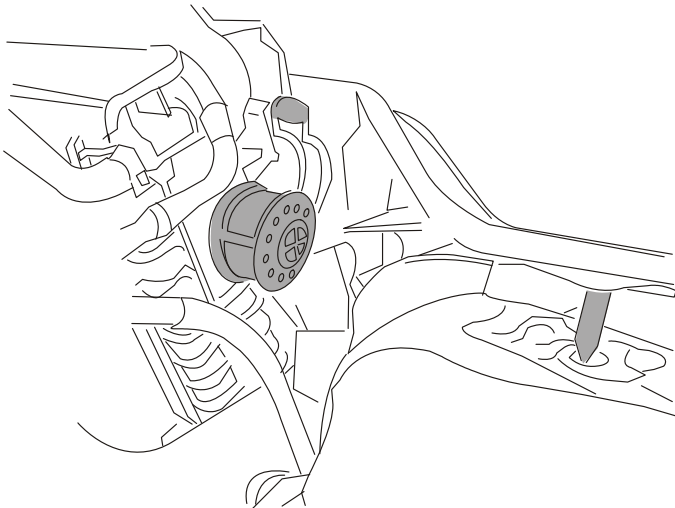

Figure 2.2
- Remove the two bolts securing the power steering reservoir to the fan shroud. Remove the fuel cooler line from the clip on the power steering reservoir and lift the power steering reservoir clear of the fan shroud. Use a small punch to remove the two plastic dowels at each end of the radiator support (Figure 2.2).